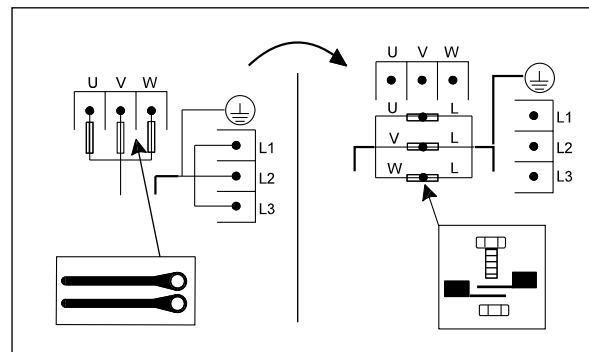

Fig. 45 How to switch an E-pump from normal operation to emergency operation
3. Connect the conductors as shown in fig. 45.